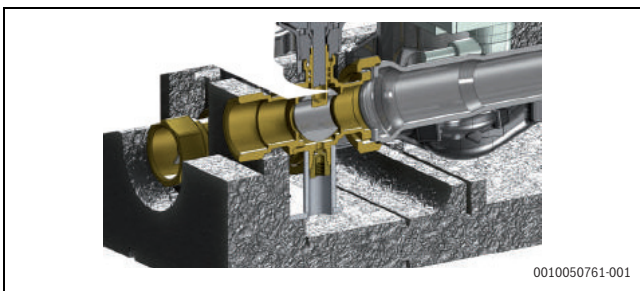
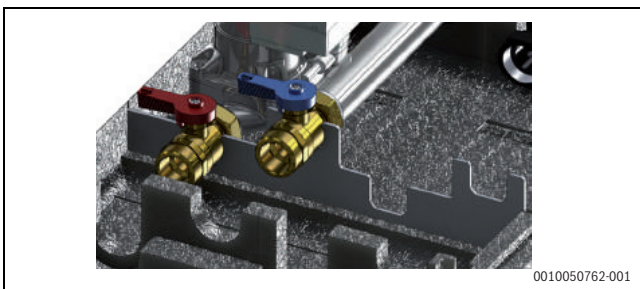

Fig. 16 Circulation unit fixing DN25
Fig. 17 Circulation unit fixing DN20
4. Before fixing the zone manifold/hydraulic separator to the wall install the distribution units to it. As shown in the picture (→ Fig. 16 and Fig. 17) pay attention when fixing the units to the anti-rotation jig.